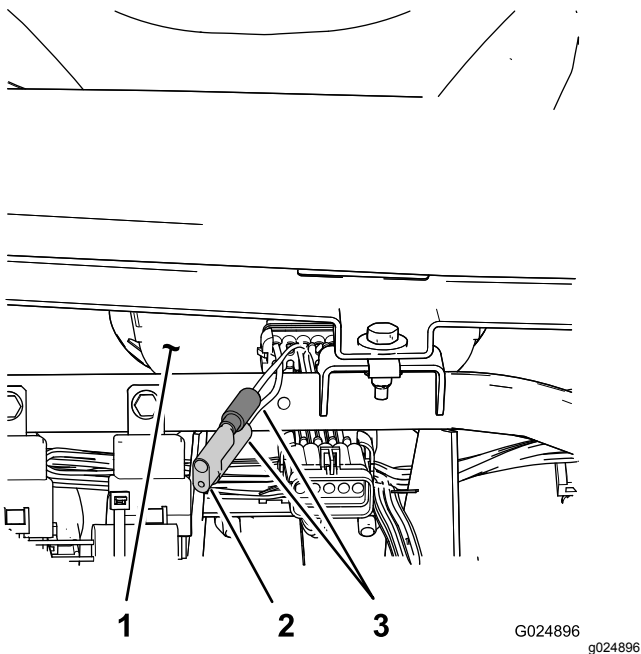

Figure 78
3. Locate the 2 loose wires next to the meter (Figure 78).
4. Remove the connector plug from the harness wire and connect the wires together (Figure 78).